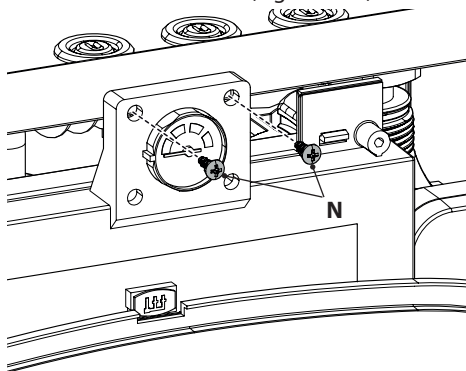

Figure 5.19
- Unscrew the screws **N** (Figure 5.19).